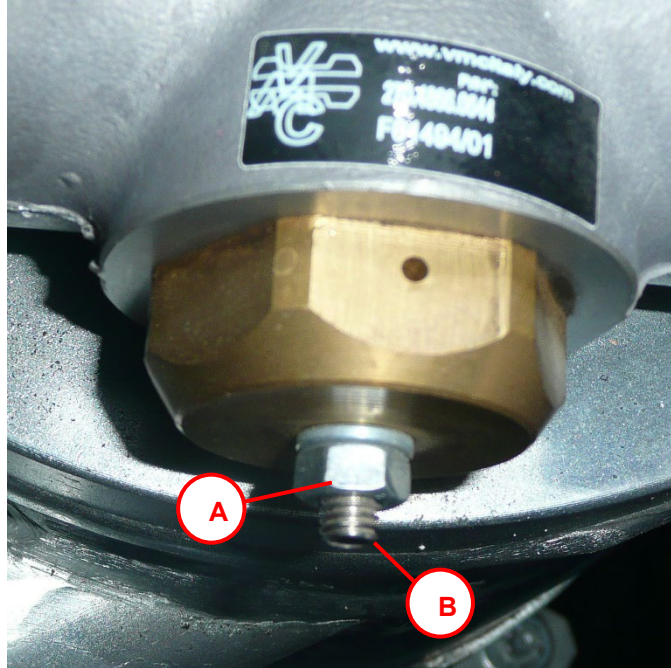

Figure 11.3-1 Adjusting minimum pressure pneumatic circuit
8. Once the adjustment screw, with a 10 mm wrench, nut (Letter A Figure 11.3-1) and turn off the taps;